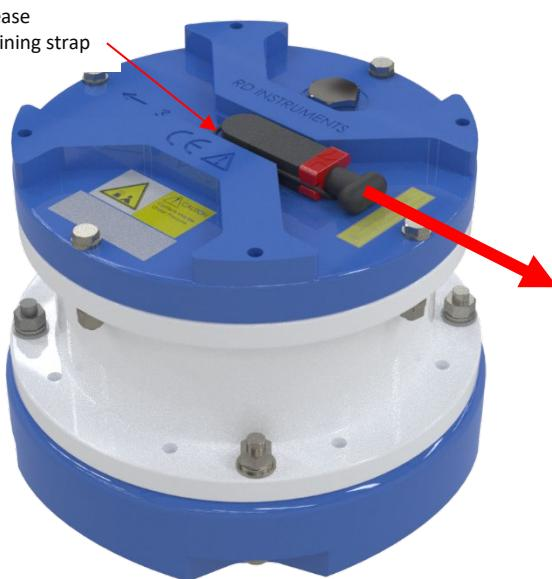

Figure 14. Removing the I/O Cable
2. Grasp the cable close to the housing (see Figure 14). Your thumb should rest on top of the connector or against the edge of the housing. *Do not try to fit your hand under the cable as it passes over the housing.* This is what causes the upward force!